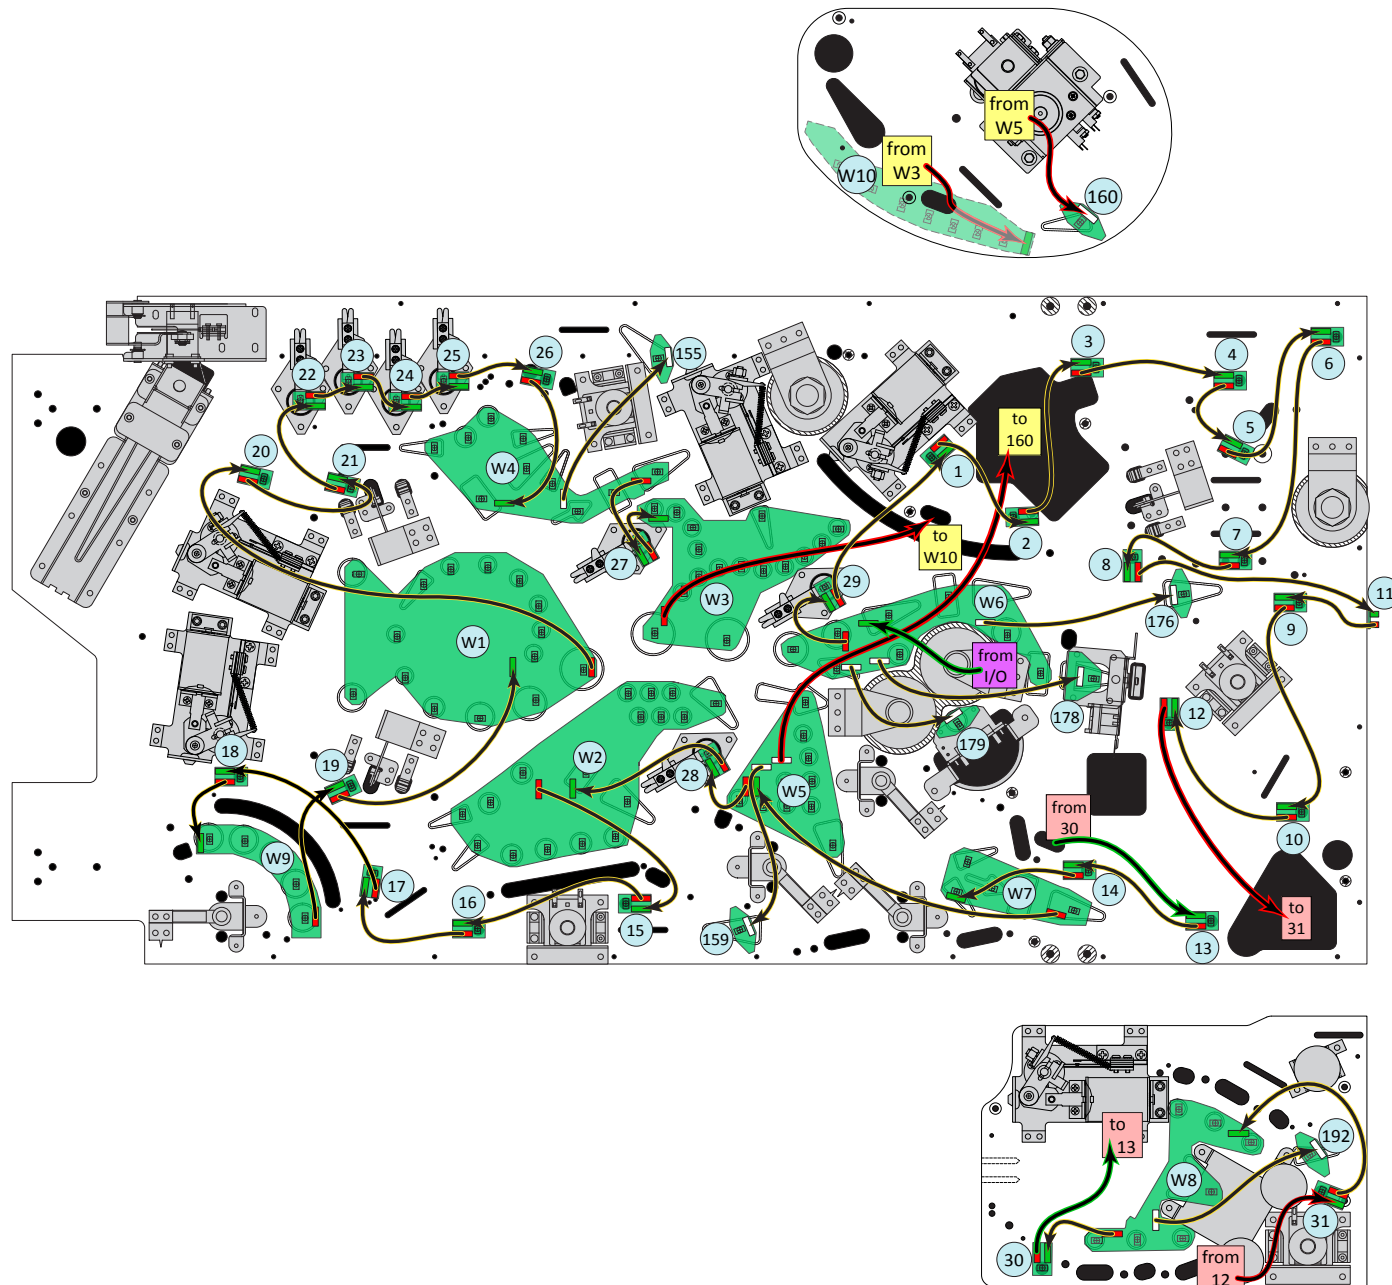

Figure E16. WOZ RGB LED data chain wiring.
The WOZ RGB LED system is often referred to as a “string”. That’s because, beginning at the I/O Board (down inside the PCB Chassis Assy), the LEDs used to light the playfield are arranged in one very long, continuous string. The string of LEDs begins with the Emerald Arrow insert for the Emerald City Ramp and winds its way around the top of the main playfield, onto the back panel (the Capture Dorothy insert), up onto the Castle playfield, back down around the bottom of the main playfield, then up to the Munchkinland playfield (see figure E16). The last RGB LED in the string is the “W” under the RAINBOW plastic. Some RGB LED boards have many LEDs on them (referred to as “multi-LED boards”, or “WOZ1 through WOZ10”, or “W1 through W10”); some have just one (referred to as “singles”). Unlike other pinball machines, WOZ general illumination (GI) is not separate from its feature lighting. GI RGB LEDs are integrated into the string, right alongside RGB LEDs used to light up inserts under the playfield. The string is made up of a total of 139 RGB LEDs.
So what do you do when a portion of your WOZ RGB LED string is locked-on or otherwise nonfunctional? You either have a) a loose/intermittent cable connection or b) a malfunctioning board. Use the diagrams in figure E16 and/or the LED diagnostics tests to identify the last working board in the string, then power down the game and reseat all of the connectors (data and power) on that board **and** the next one (the first non-working board). Power the game back up and see if the symptoms/problems persist. If so, you may have a malfunctioning RGB LED board; if the symptoms are gone, a cable connection was likely the root cause of your problem.